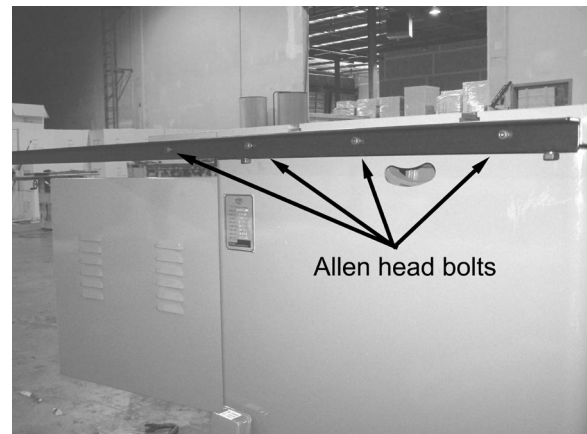

Figure 6
3. Install the rear guide as shown in figure 6 using the supplied hardware.